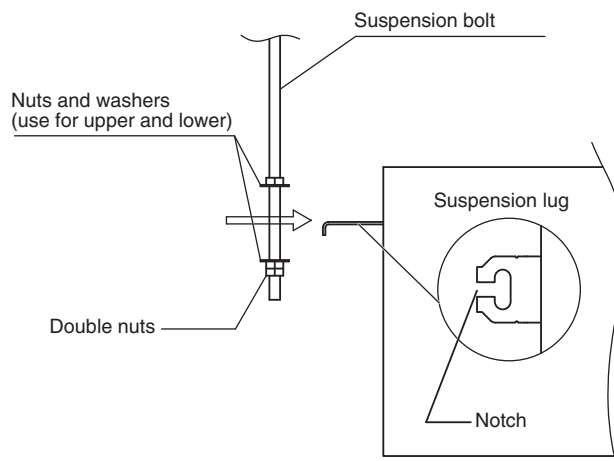

Fig. 1-94
- (3) Thread the 3 hexagonal nuts and 2 washers (field supply) onto each of the 4 suspension bolts (Figs. 1-94 and 1-95). Use 1 nut and 1 washer for the upper part, and 2 nuts and 1 washer for the lower part, so that the unit will not fall off the suspension lugs.